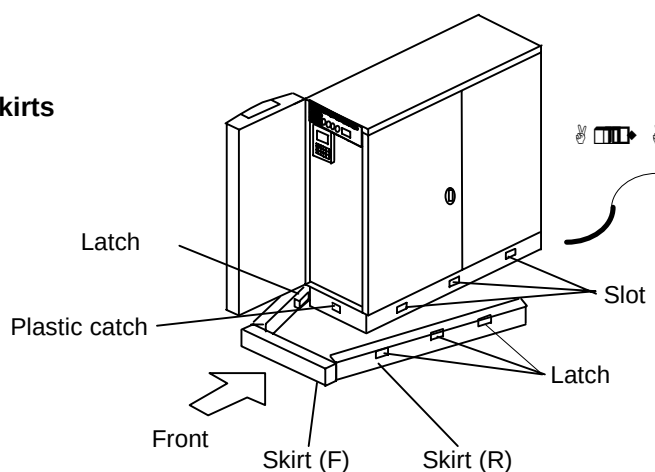

Figure 3.2.7 Fitting the Combined Skirts
- ⑤ Attach the combined skirts (F), (R) and (L) to the bottom of the unit by fitting them from the front of the unit (as shown by an arrow A) with the skirts (R) and (L) being spread out a little. Then make the latches ❷ of the skirts (R) and (L) be engaged with the slots ❷ of the unit frame. (See Figure 3.2.7.)